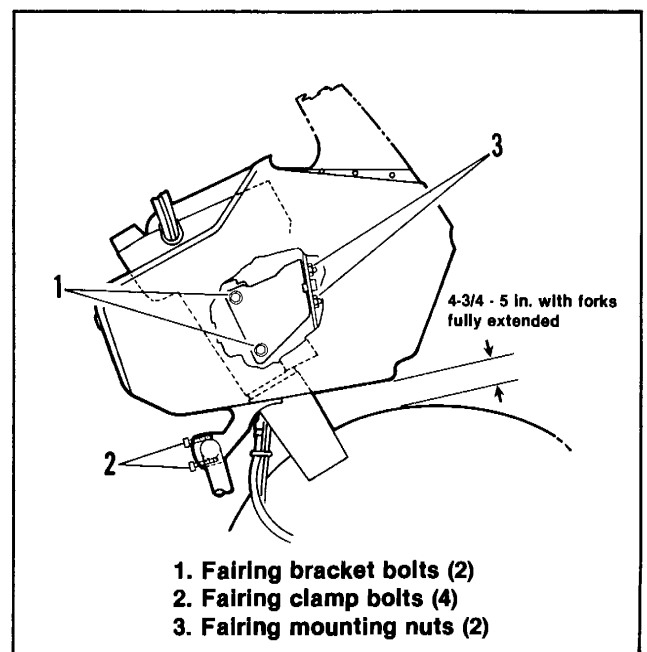

Figure 2-145. Fairing Adjustment — FLT
6. See Figure 2-145. Raise front wheel so forks are fully extended. Place blocking under frame.
8. Clearance must be 4 3/4-5 in. as shown in Figure 2-145.
9. If clearance is less than 4 3/4 in., loosen bolts (1) and slightly loosen (about one turn) bolts (2) on both fairing clamps.
11. Tighten bolts (1) and (2).